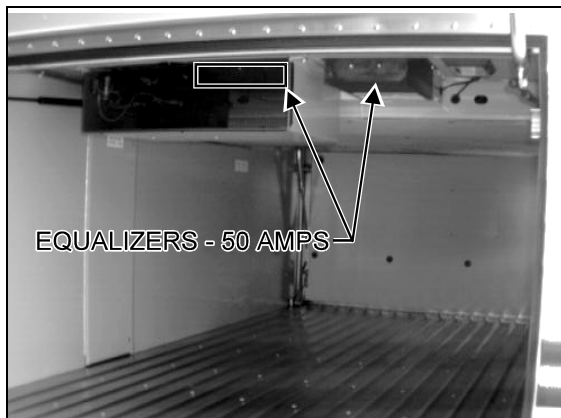

FIGURE 88
On **XL-40** vehicles the two (2) battery equalizers ("VANNER"-50 amps-12 & 24 volts) are installed just below rear L.H. side baggage compartment's ceiling. The reset buttons are located on the end of equalizers facing the center of the coach. Refer to figure 88.